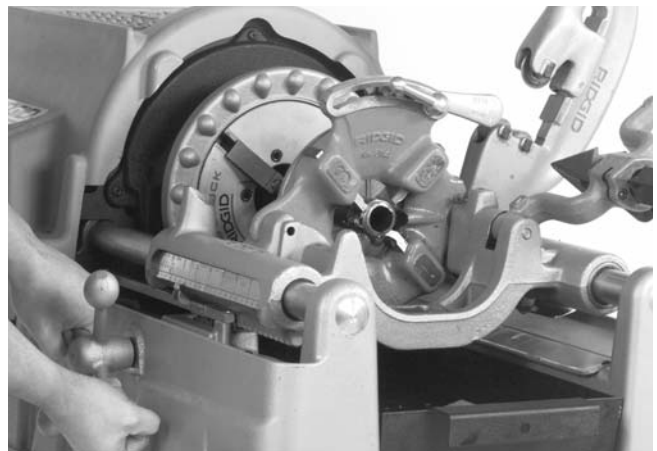

Figure 7 – Threading with 535 Manual Threading Machine
5. Turn carriage handwheel to bring dies against end of pipe. Slight pressure on handwheel will start dies. *(Figure 7)*
1. Depress handle so that camplate rests (Figure 7 – Model 816/817 Die Head) against the stop. (As shown).